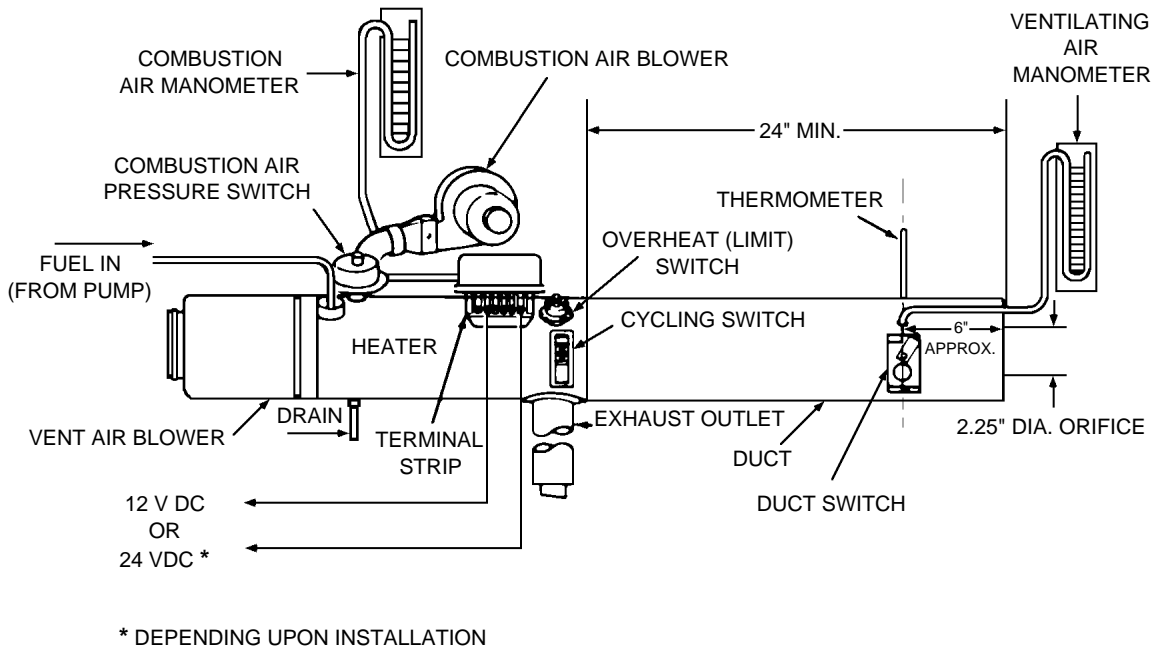

Figure 21-18. Suggested Setup of Heater Operation Test
EQUIPMENT REQUIRED (Refer to Figure 21-18.)
6. A piece of duct to be attached to the downstream end of the heater. It should have a minimum length of 24 inches and the same diameter as the heater being tested. A 2.25 inch diameter orifice should be centrally located at the outlet end. An aperture should be provided for the thermometer and duct switch and a static tap should be attached as shown in Figure 21-18.
OPERATIONAL TEST (ON TEST BENCH) (Refer to Figures 21-18 and 21-19.)
1. Connect the heater to the test setup as shown in Figure 21-18. Make sure the combustion air blower is mounted securely and that the heater is clamped to its supporting stand.
2. Insert the duct switch in the sheet metal extension tube at the location shown in Figure 21-18.